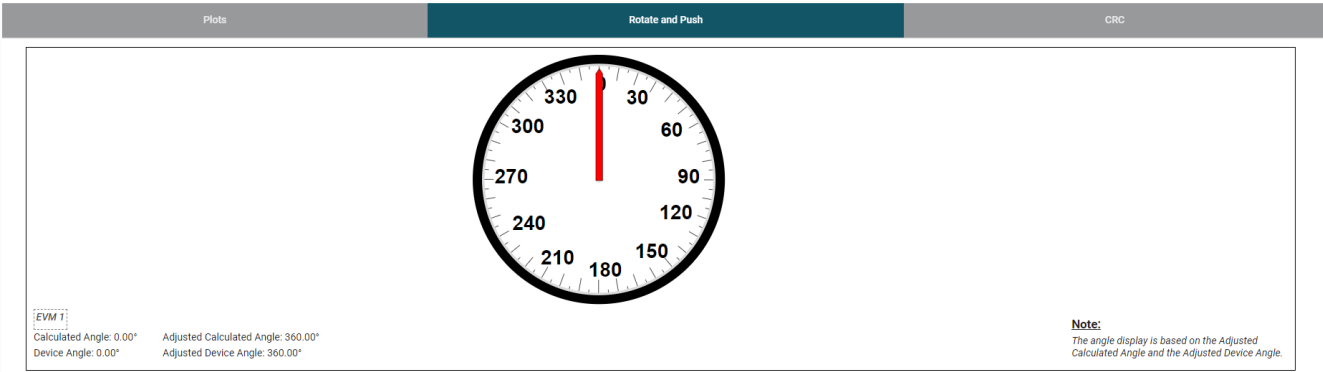

Figure 3-13. Rotate & Push GUI Page
3. Go to the *Rotate & Push* tab inside the *Results Data* page (see Figure 3-13).